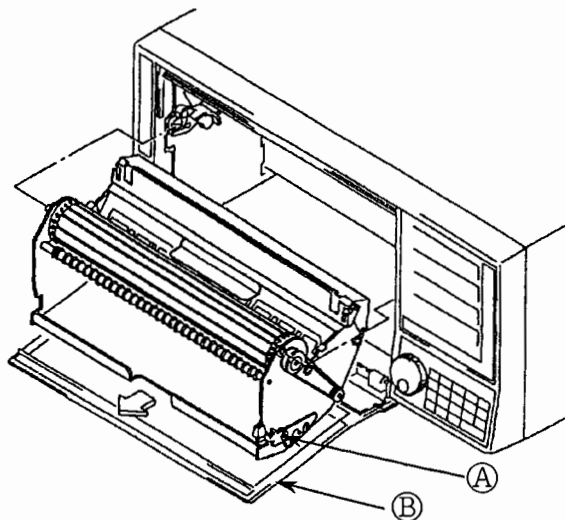

Figure 6.2
- (2) Pull the tray toward you to remove it from the recorder. (Figure. 6.2)
- (3) Move the printer carriage to the extreme left, and all pens on the pen carriages to the extreme right.
Press the tray at the right of the chart tray and remove the unit from the recorder (See Figure. 6.2.).